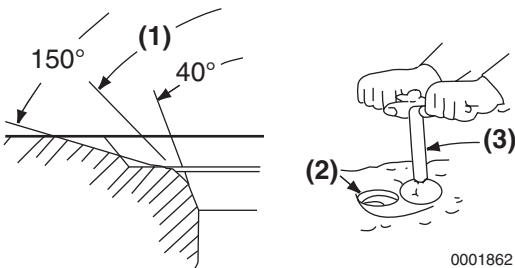

Figure 6-58
Light cutting can be performed by the use of a hand-operated cutter (**Figure 6-58**).
Valve seat diameter can be adjusted by top-grinding with a 150° stone to make the seat diameter smaller, and bottom-grinding using a 40° stone to make the seat diameter larger. Once the seat location has been corrected, grind and lap the seat angle (**Figure 6-58, (1)**) to specification. See *Cylinder Head* on page 6-6 for specifications.